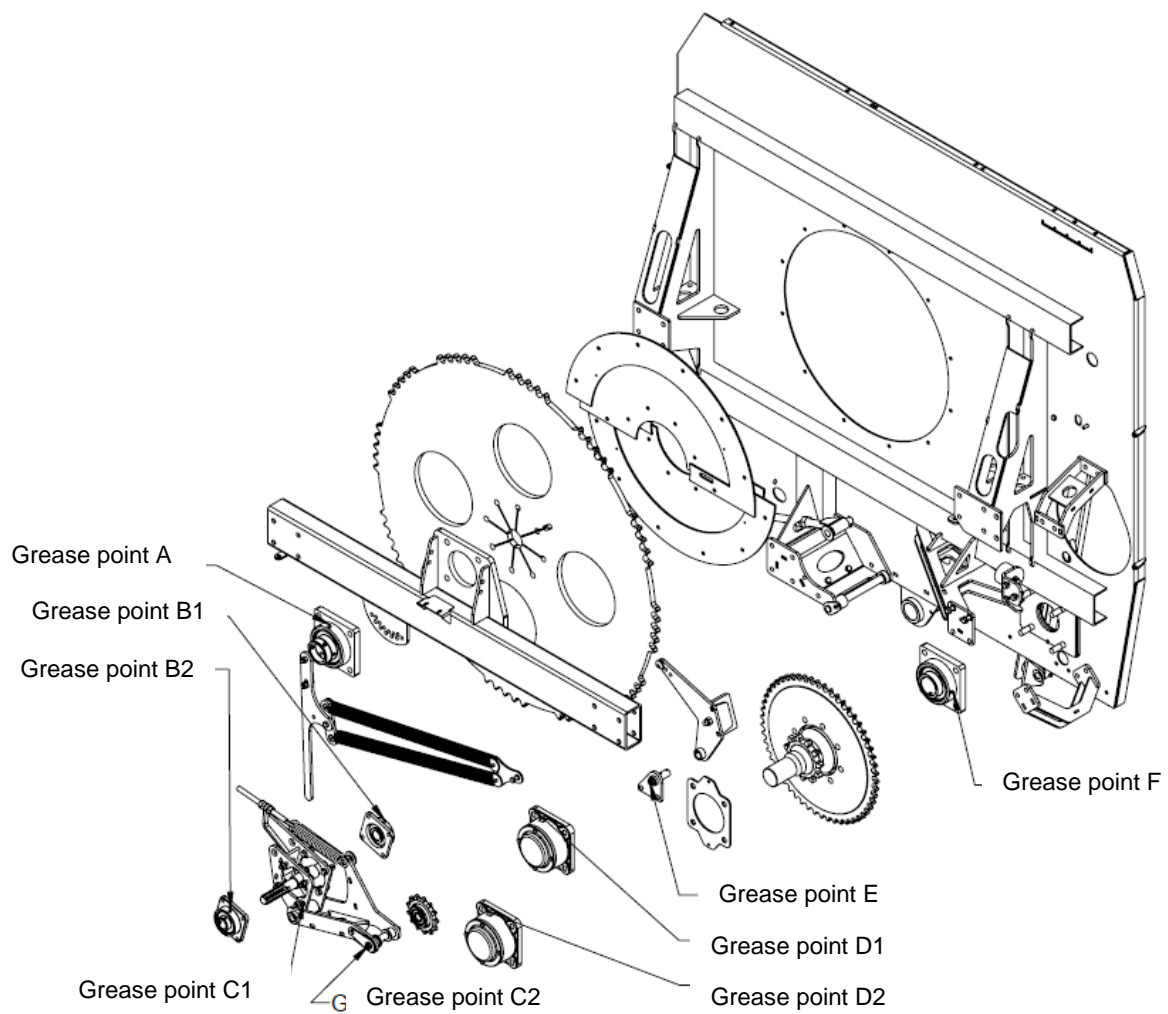

Figure 10a: Front grease points
- a. The main rotor bearing at the front of the KEENAN MechFiber (A, Figure 10a).
- b. Two main bearings on the front and rear of the input drive shaft (B1 and B2, Figure 10a).
- c. The auger bearing and idler shaft bearing at the front of the KEENAN MechFiber (D1 and D2, Figure 10a).
- d. The bearing on the rear of the idler shaft (F, Figure 10a).
- One on the secondary chain tension arm (E, Figure 10a)
- Two on the primary chain tension arm (C1 and C2, Figure 10a)